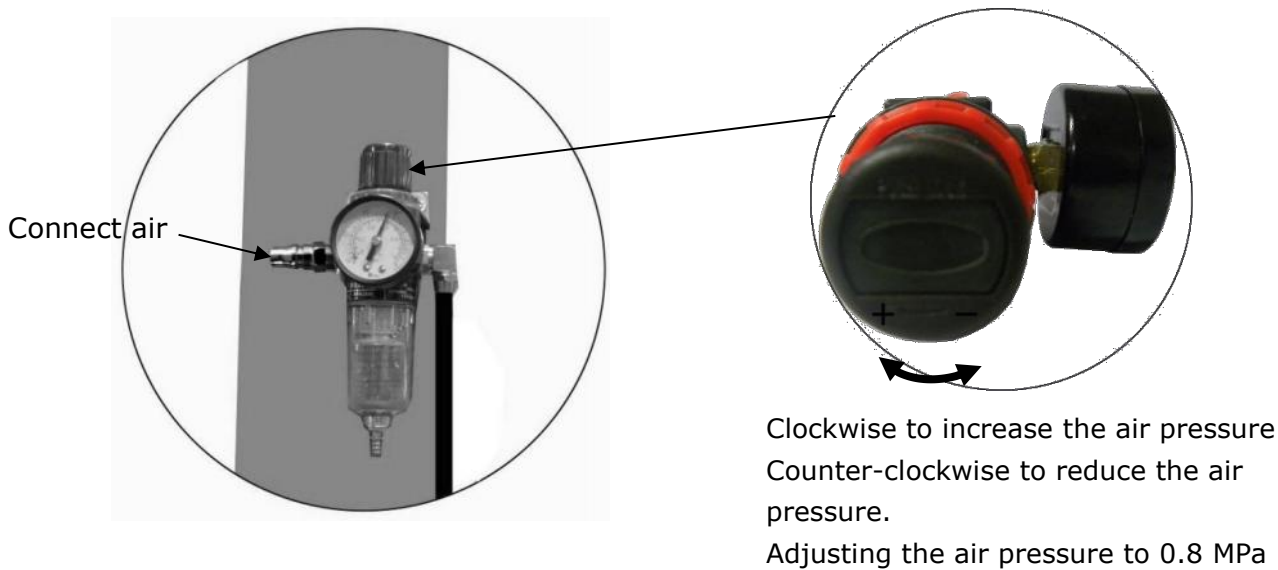

Fig.40
5. Connect to the air source , adjust the air pressure of oil-water separator to 0.8 MPa(See Fig.40)